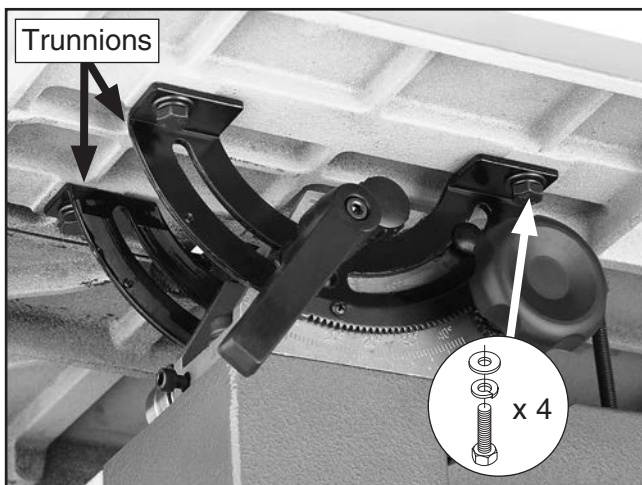

Figure 23. Mounting the table.
8. **Models G0513 and G0513A40:** Secure table to trunnions, as shown in **Figure 23**, with (4) M8-1.25 x 16 hex bolts, 8mm lock washers, and 8mm flat washers.